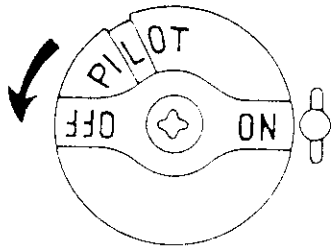

Figure 2
4. After pilot remains lit, rotate knob counter-clockwise to ON position. See Figure 2.